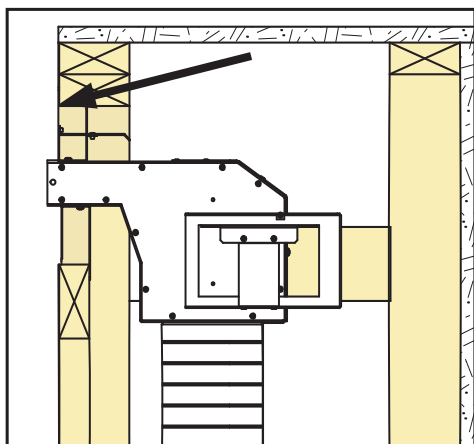

Figure 18. CSS - Top Standoff
Step 3: Insert the assembled CSS into the framed rough opening by rotating it down slightly to allow the outlet and standoffs to pass through. When installed correctly the front flange of the top standoff should be up against the front face of the top stud (Figure 18).
Step 4: Confirm the CSS is centered within the rough opening and secure in place using screws or nails through the four (4) holes along the top edge of the top standoff.